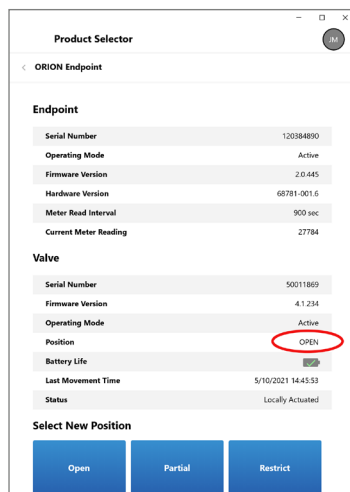

Figure 29: Endpoint and Valve readings prior to actuation
2. With the IR device aligned to the endpoint IR port, select **Read Device**. Readings for the endpoint and valve display (Figure 29).